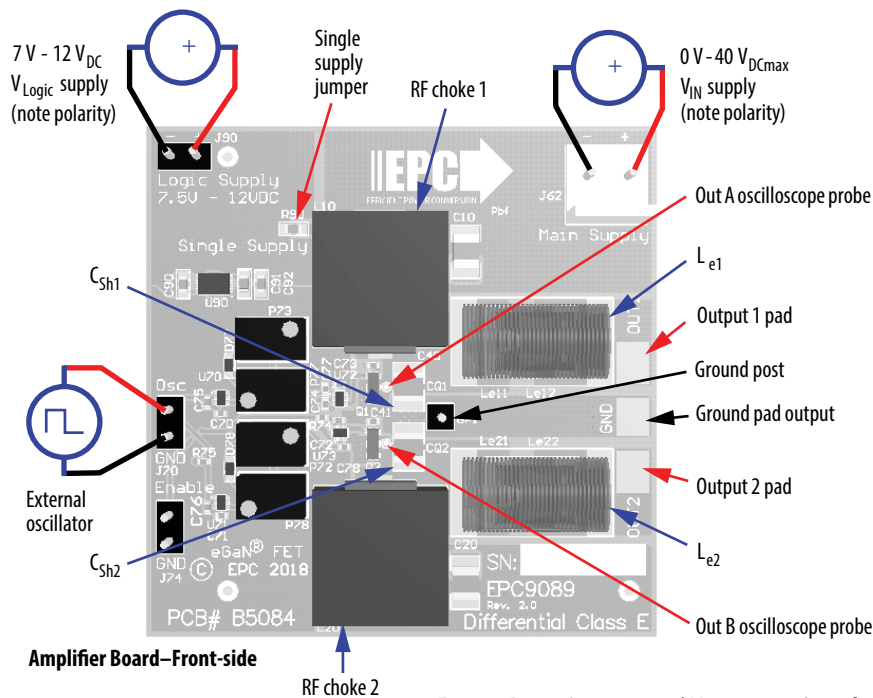

Figure 5: Proper Connection and Measurement Setup for the EPC9089 Amplifier Board.
2. With power **off**, connect the **main** input power supply bus to J62 as shown in figure 5. Note the polarity of the supply connector. Set the voltage to 0 V.
3. With power **off**, connect the logic input power supply bus to J90 as shown in figure 5. Note the polarity of the supply connector. Set the voltage to between 7 V and 12 V.